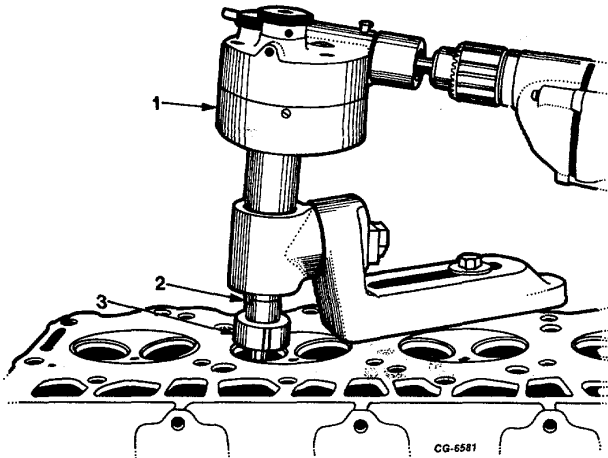

Fig. 118 Machining Valve Seat Insert Counterbore
3. Use counterbore tool such as SE-1797 (Figure 118) to clean up (or machine to desired oversize) the valve seat insert counterbores in cylinder head. Follow equipment manufacturer's instructions.